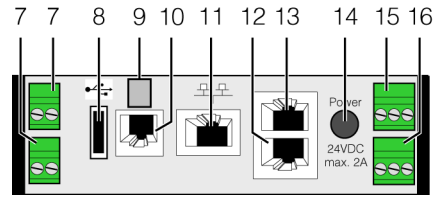

Fig. 91: Liquid Cooling Package control unit (CMC III PU) – rear
Up to four additional standard sensors may be connected to the control unit (CMC III PU) to monitor additional physical parameters of the Liquid Cooling Package. To this end, the sensors are connected to the first CAN bus connection on the rear of the control unit (fig. 91, item 11) and configured via the Web interface.